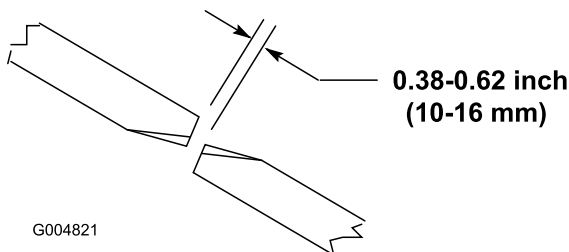

Figure 27
To ensure proper operation of the cutting unit, there must be 10-16 mm (0.38-0.62 inch) clearance between the tips of the wing and center cutting unit blades (Figure 27).
2. Rotate a center and adjoining wing blade so there blade tips are aligned. Measure distance between blade tips, distance should be approximately 10-16 mm (0.38-0.62 inch) (Figure 27).